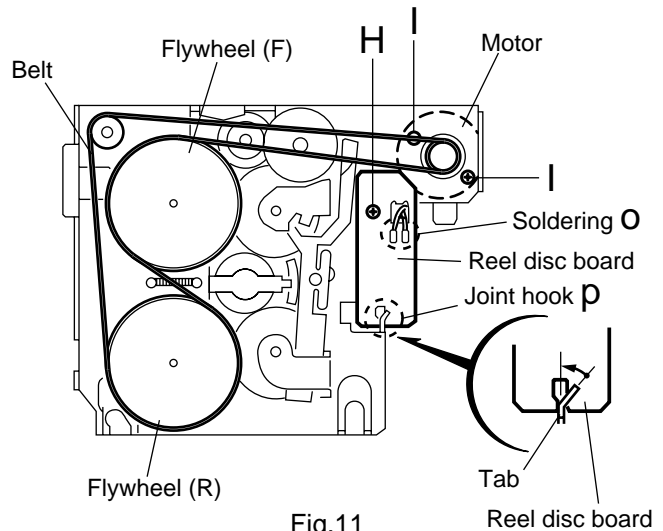

Fig.11
**■Removing the reel disc board (See Fig.11)**